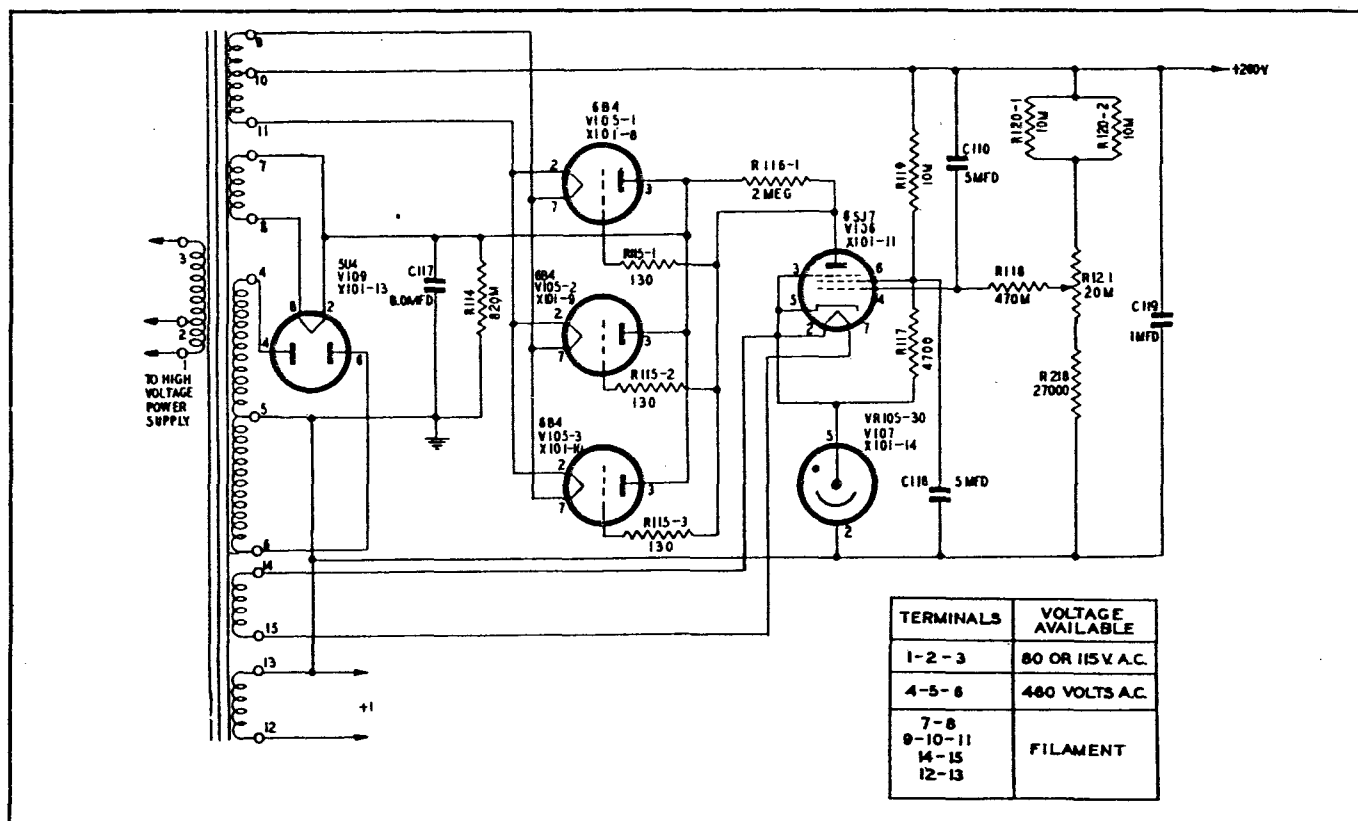

Figure 4-37. Regulated-Voltage Power Supply
(5) REGULATED-VOLTAGE POWER SUPPLY. (See figure 4-37.)—The regulated voltage power supply includes power transformer T-104, rectifier tube V-109, voltage regulator tubes V-105-1, V-105-2 and V-105-3; regulator control tube V-106; cathode stabilizer tube V-107; and associated switches, resistors, and capacitors. The circuit is designed so that a regulated d-c voltage, held constantly at 260 volts, is delivered to the receiver and indicator circuits.